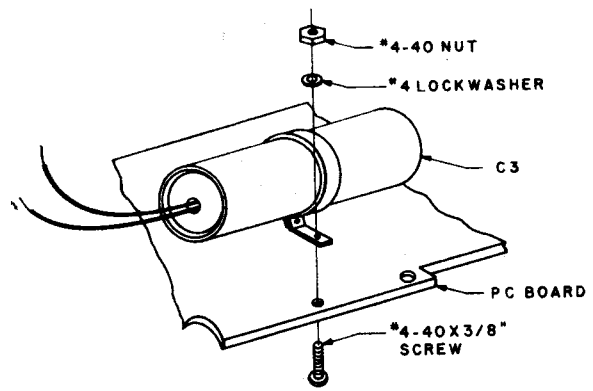

Figure 3-4. C3 Mounting
2. Refer to figure 3-4 and mount C3 as shown on the PC Board.